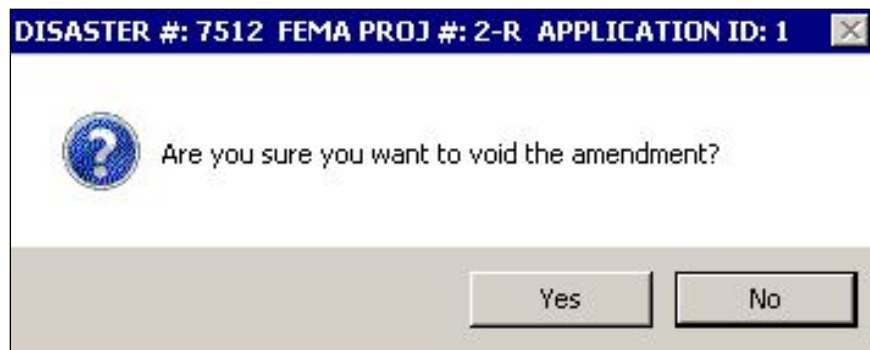

Figure 12-10: Void Amendment Dialog Box
- c. The Void Amendment dialog box is displayed (Figure 12-10).